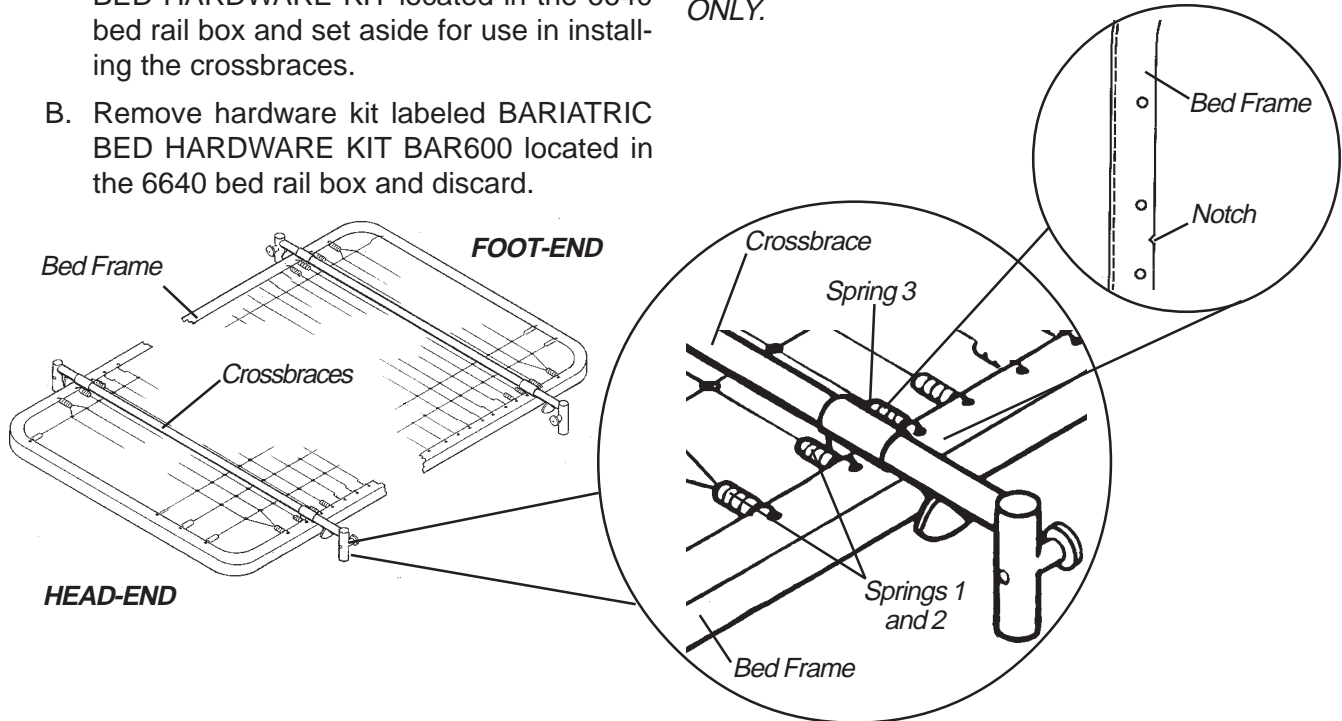

FIGURE 10 - OPTIONAL BED RAILS - ALL MODELS EXCEPT THE BARIATRIC BED
All Models EXCEPT The Bariatric Bed (FIGURE 10)
2. If applicable, place the crossbraces of the ordered bed rail in the notches between the SECOND AND THIRD springs at both the HEAD AND FOOT ENDS of the bed frame as shown in FIGURE 10.